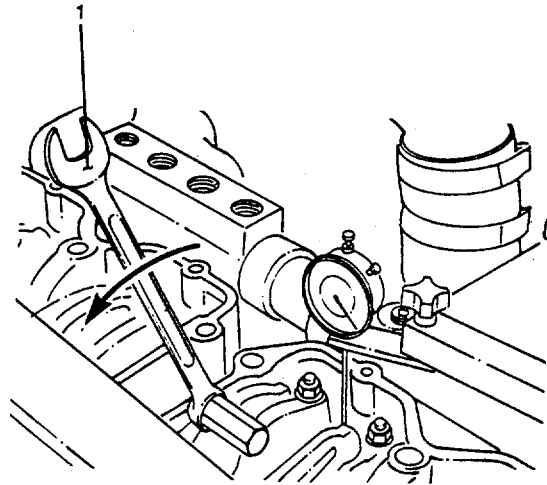

FIGURE 2-33. Rocker Lever Actuator.
- (g) Use the rocker lever actuator (1, Figure 2-33) to depress the injector plunger three or four times to make sure all the oil and fuel have been removed from the injector assembly. Allow the lever to return slowly to prevent damage to the dial indicator.